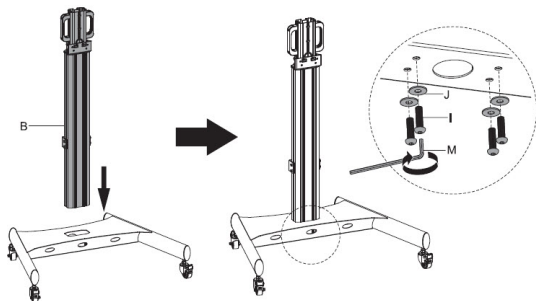

Figure 3
1. Insert the **Column (B)** into the **Base (A)**. (Figure 3)
2. Thread four **Washers (Small) (J)** onto four **M8 x 30 mm Screws (I)**.
3. Insert the four **M8 x 30 mm Screws (I)** through the bottom of the **Base (A)** and into the **Column (B)** and tighten, using the **5 mm Hex Key (M)**.